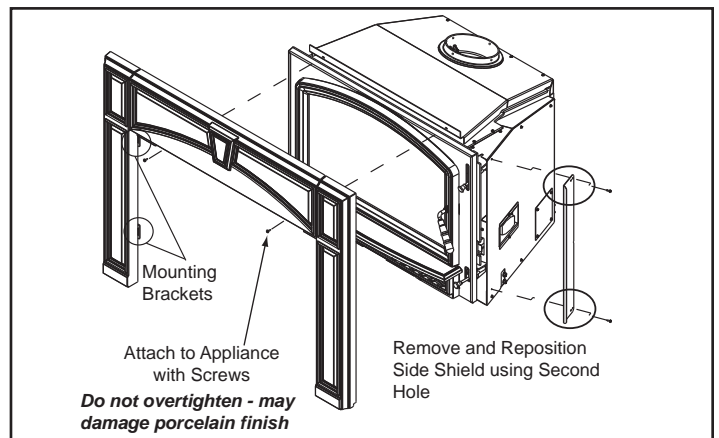

Figure 22.6
5. In order to get a tight seal for the surround, you must reposition a side shield. There are two holes on the shield and it will come from the factory secured in the first (left) hole. Remove the shield and re-install using the second (right) hole. **Figure 22.6.**